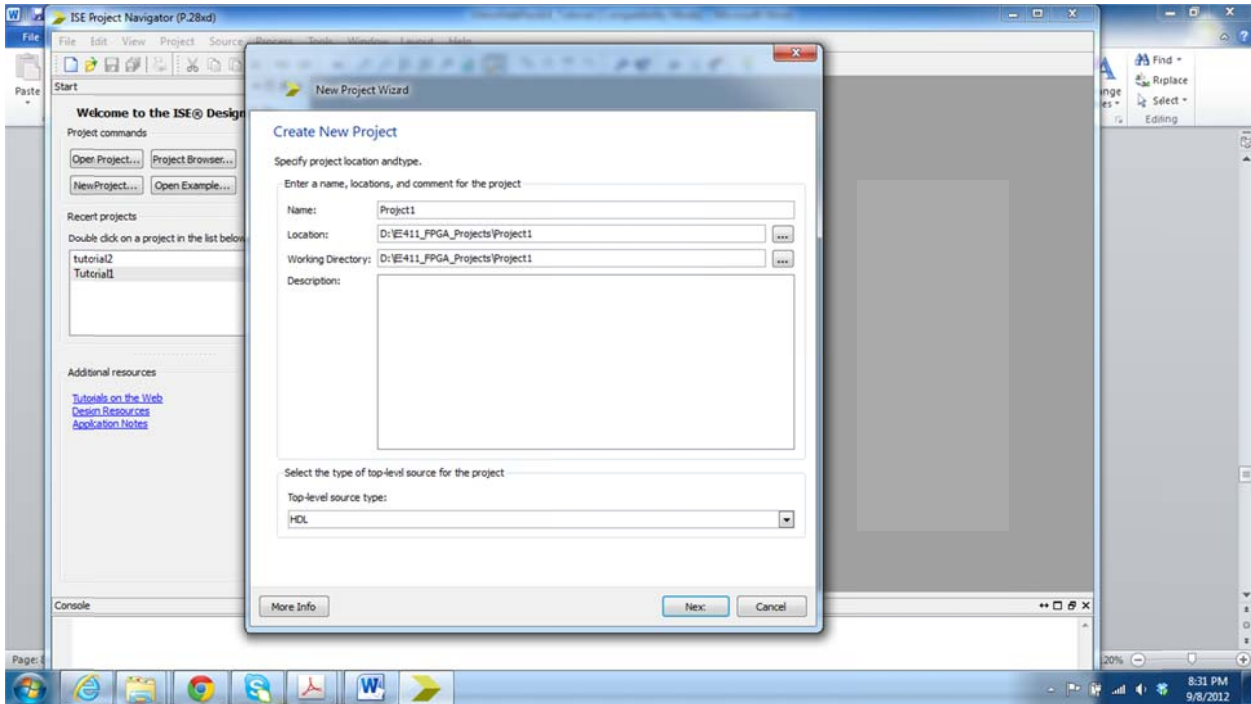

Figure 1B
1. Start the XILINX ISE Design Environment. To create a new design, select new project as shown in Figure 1B.